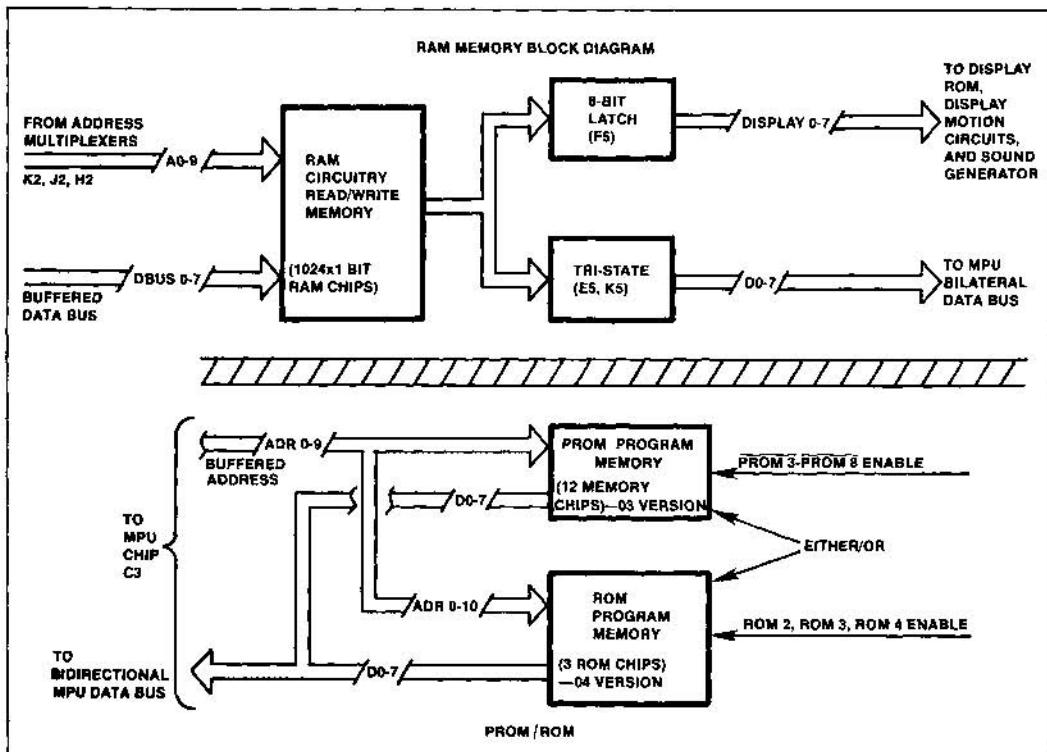

Figure 3-5 Memory Block Diagram
B. POWER SUPPLY (See Figure 3-3, Sheet 1 of 5 and Figure 3-5)
MPU, ROM, and RAM (See Figure 3-5)